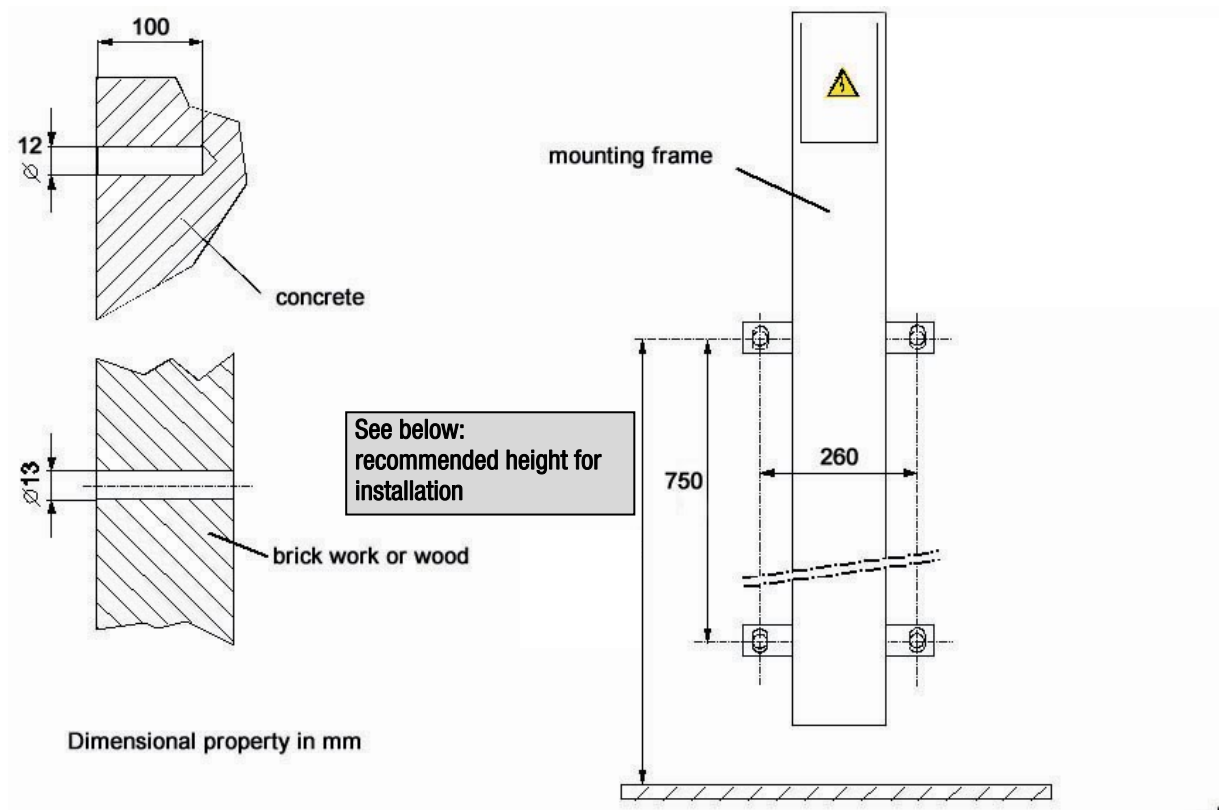

Fig. 4.0 Securing of SCHURR Cow-brush
- ☞ Mark the drilling template according to fig. 4.0.